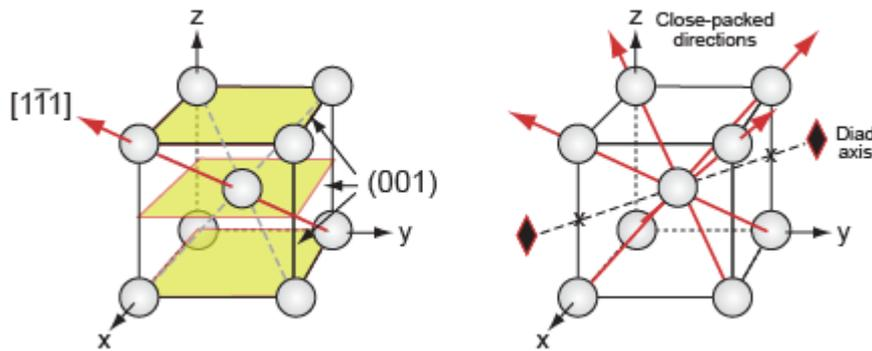

Figure C43.
**E30.** The planes and directions are in Figure C43.